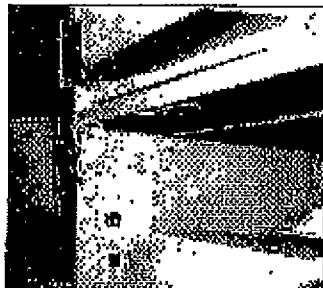

Figure 3-5.10L
Step 10. Remove the top half of the divider frame located below the breaker cell by removing the four remaining screws holding the left side of the top divider frame (Figure 3-5.10L). Then remove the two screws holding the right side (Figure 3-5.10R). Remove the three screws holding the frame to the bottom of the post (Figure 3-5.10P). Remove the seven screws holding the post (Figure 3-5.10P). Then the divider panel can be slid out of the cell giving access to the lead side connections (Figure 3-5.10).